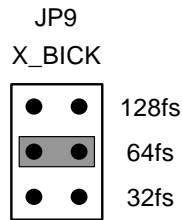

Figure 3. BICK frequency
- 64fs: BICK = 64fs (Figure 3)